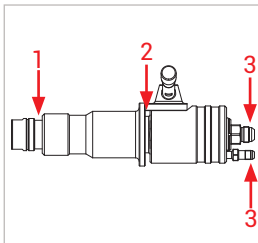

Figure 12
- ▶ Check the following measuring points (Figure 12):
- WEH® Service receptacle (1)
- guide bush and swivel joint (2)
- fitting (3)